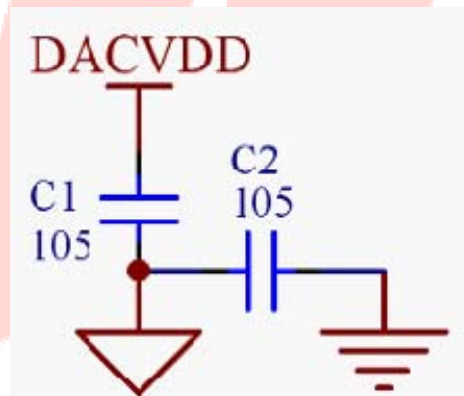

Figure 4 ESD Static Electricity Processing Circuit
- 1) At the decoupling capacitor C1 of the DACVDD power supply, connect AGND and GND nearby using a 105 capacitor, as shown in Figure 4.